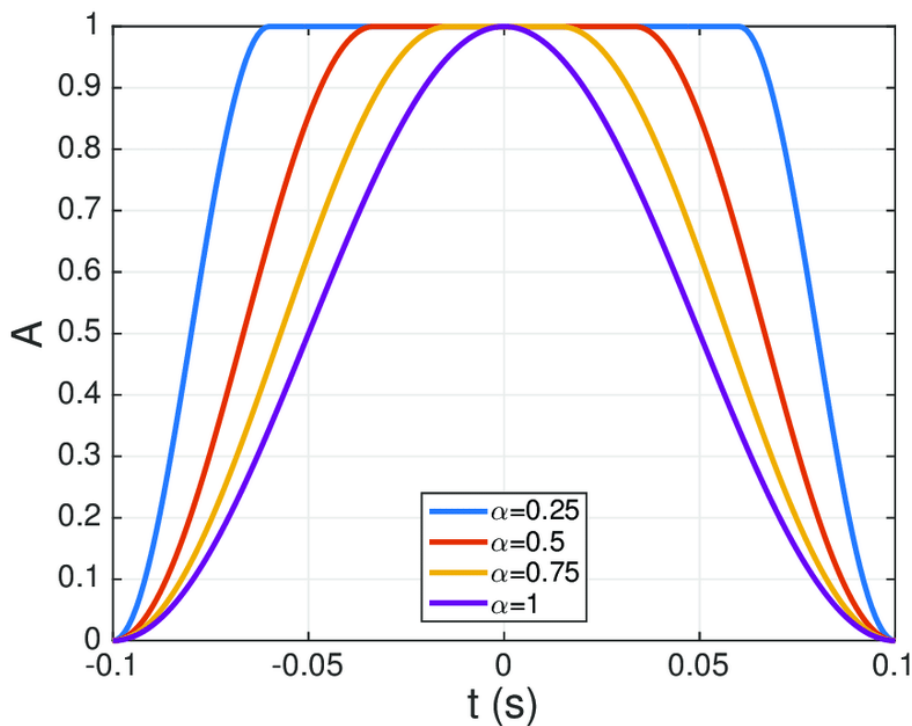

Figure 7: Cosine Window
5. Cosine Factor: allows you to adjust the attack of each grain. As explained in Section 1.2, a windowing process is applied to each grain. In our algorithm, we use the cosine window, represented in Figure 7. Varying the Cosine Factor α affects the attack duration of the window, ranging from a rectangular window ($\alpha = 0$) to a Hann window ($\alpha = 1$). Each thread has its own independent Cosine Factor.